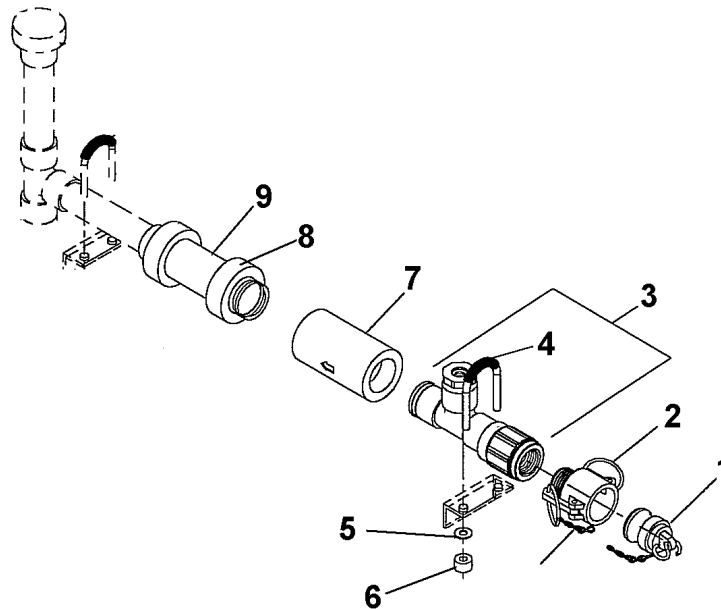

Figure 4. Flow Controller (8 GPM).
1. Remove dust plug (1) and female camlock (2) from the tee fitting (3). See Figure 4.